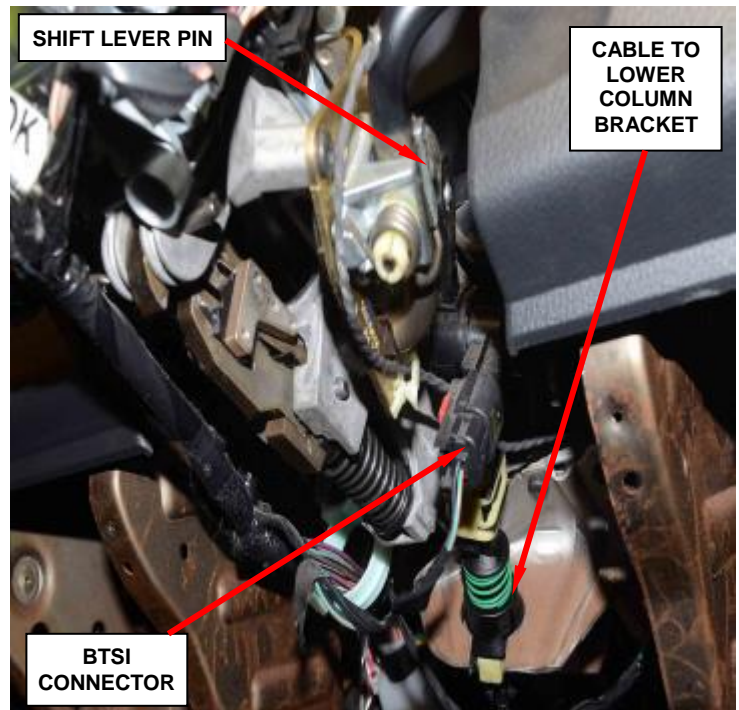

Figure 80 – Gear Shift Cable
13. Disconnect the gearshift cable from the column (Figure 80).